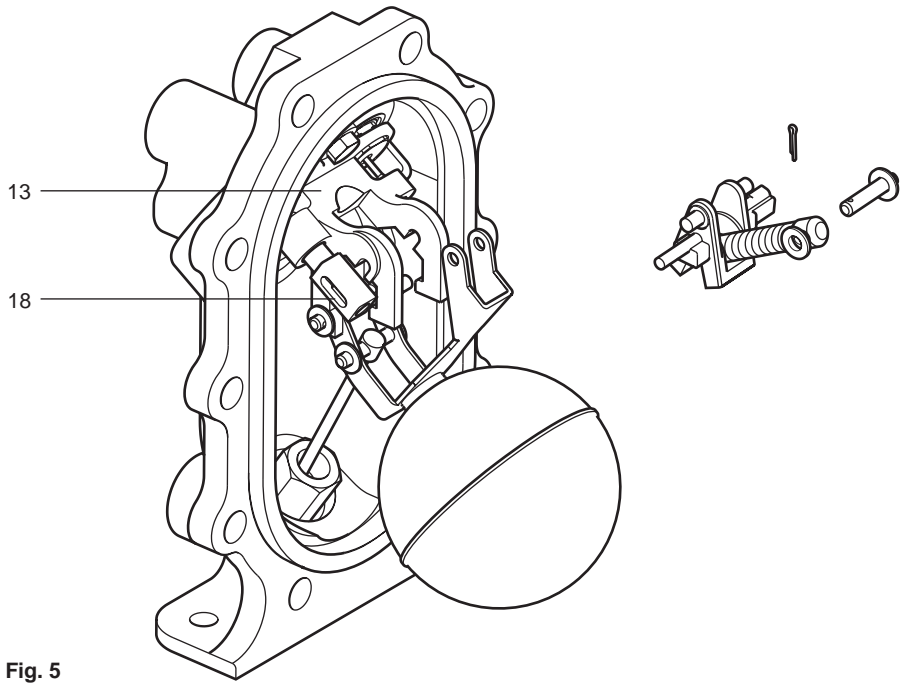

Fig. 5
**Note:** There is no need to remove the spring from the actuator arm, as both these items are supplied fully assembled in the spares kit (See Fig. 5).
10. **Fitting the new spring and actuator arm is the opposite to removal.** Remember to compress the small spring within the exhaust valve (item 18) before refitting to the tanged spigot of the new actuator arm.
11. Ensure the actuator is correctly aligned and located within the slots of the pump bracket (item 13).
13. Always use new split pins and washers when refitting the spring retaining shaft (Y).
16. Carefully reconnect the motive steam supply and the exhaust lines to the connections marked (S) and (E) and the condensate inlet and outlet to the connections marked (IN) and (OUT). The APT10-4.5 is now ready to recommission.